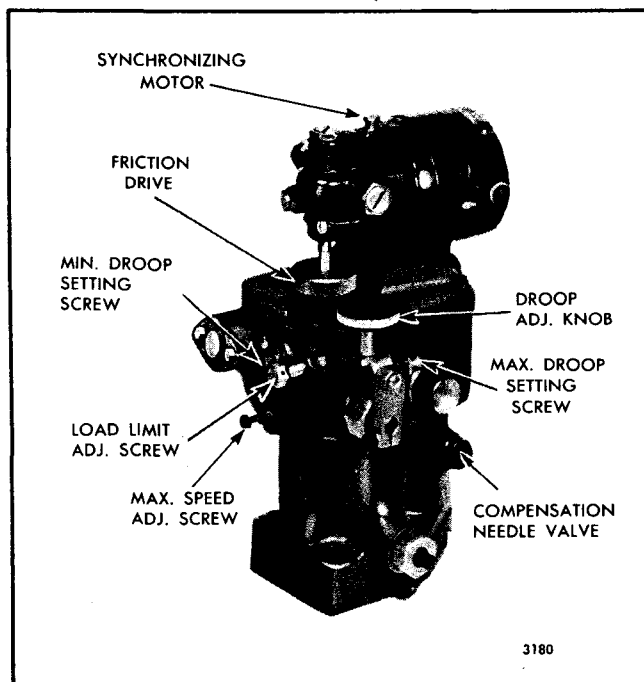

Fig. 10 - Typical Synchronizing Motor Mounting
Some PSG type governors are equipped with an external adjustable droop control (Fig. 10). This permits the speed droop to be adjusted without removing the governor cover. With this feature, a unit can be paralleled with another unit that is operating at constant frequency (zero droop). The incoming unit must have its droop bracket set in the maximum position while it is being paralleled and while operating in parallel. When it is desired to stop the unit operating at constant frequency, shift the load to the incoming unit and move the governor droop bracket to zero droop. Then adjust the outgoing unit to maximum droop, remove it from the line and stop the engine. The incoming unit will now be carrying the load and operating at constant frequency (zero droop).
5. Loosen the droop adjusting knob (Fig. 10) and move the slider all the way in toward the center of the governor. Then tighten the knob.
Some hydraulic governors are equipped with a reversible electric synchronizing motor (Fig. 10) mounted on the governor cover.